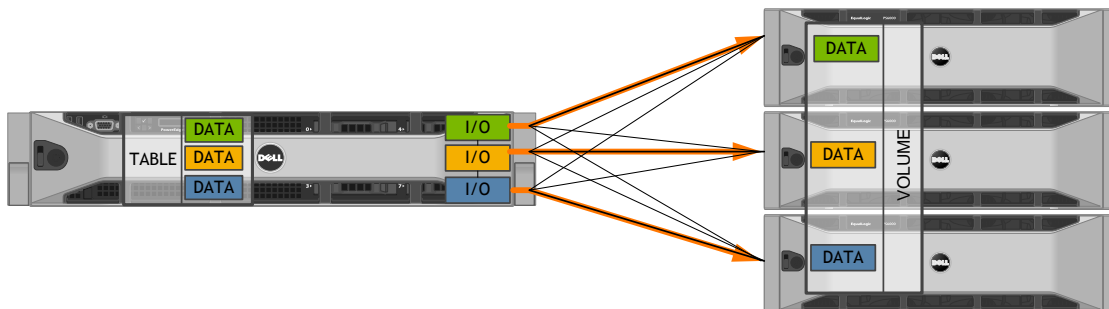

Figure 3 PS Series MPIO DSM automatically manages iSCSI sessions and routes I/O directly to the member servicing it
1. A driver component in the I/O stack that works in conjunction with the Microsoft MPIO driver to route I/O to the desired path. This is the PS Series DSM for Microsoft Windows. It selects the best path for each I/O by using knowledge about how the volume is laid out on the PS Series Group. See Figure 3.
2. A Microsoft Windows Server service (PS Series Host Connection Manager – EHCM) that manages connections. The service periodically retrieves the current volume layout from the PS Series Group. It also monitors the iSCSI sessions and SAN topology and will reconfigure the iSCSI session mesh when necessary. See Figure 3.